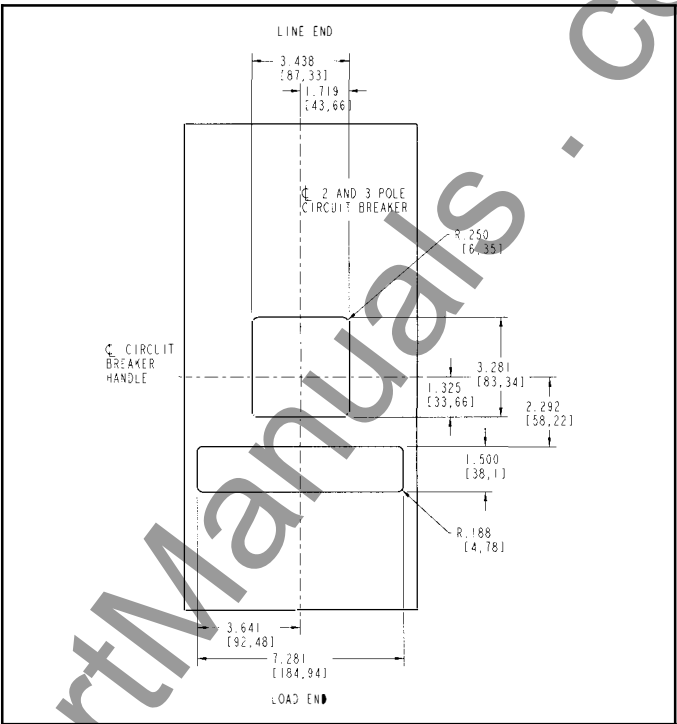
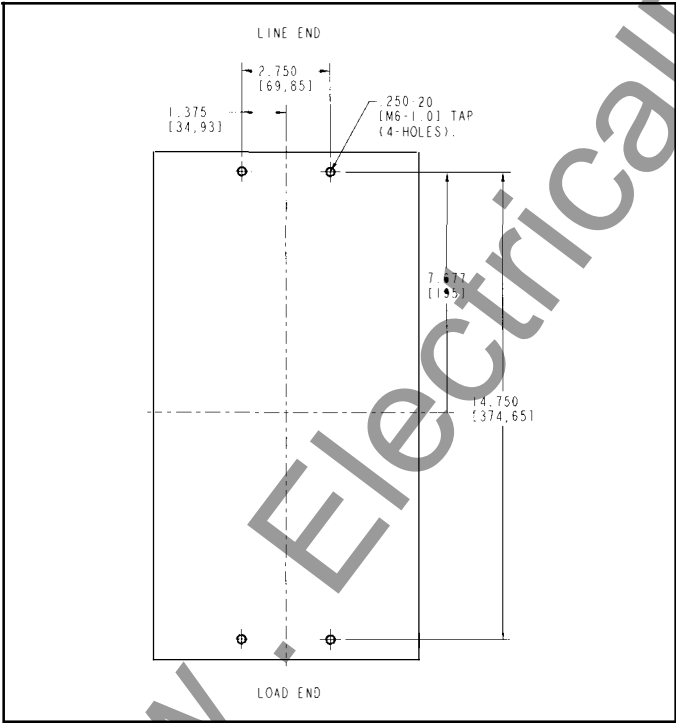

Fig. 2-4 2 & 3 Pole Cutout Dimensions
Fig. 2-3 2 & 3 Pole Mounting Bolt Drilling Plan
- a. For individual surface mounting, drill the mounting panel using the drilling plan shown in Fig. 2-3. For panelboard mounting, only load end support mounting holes are required. For Deadfront cover applications, cut out cover to correct escutcheon dimensions, see Fig. 2-4.
Existing cutouts must be modified to agree with requirements shown in Fig. 2-4.